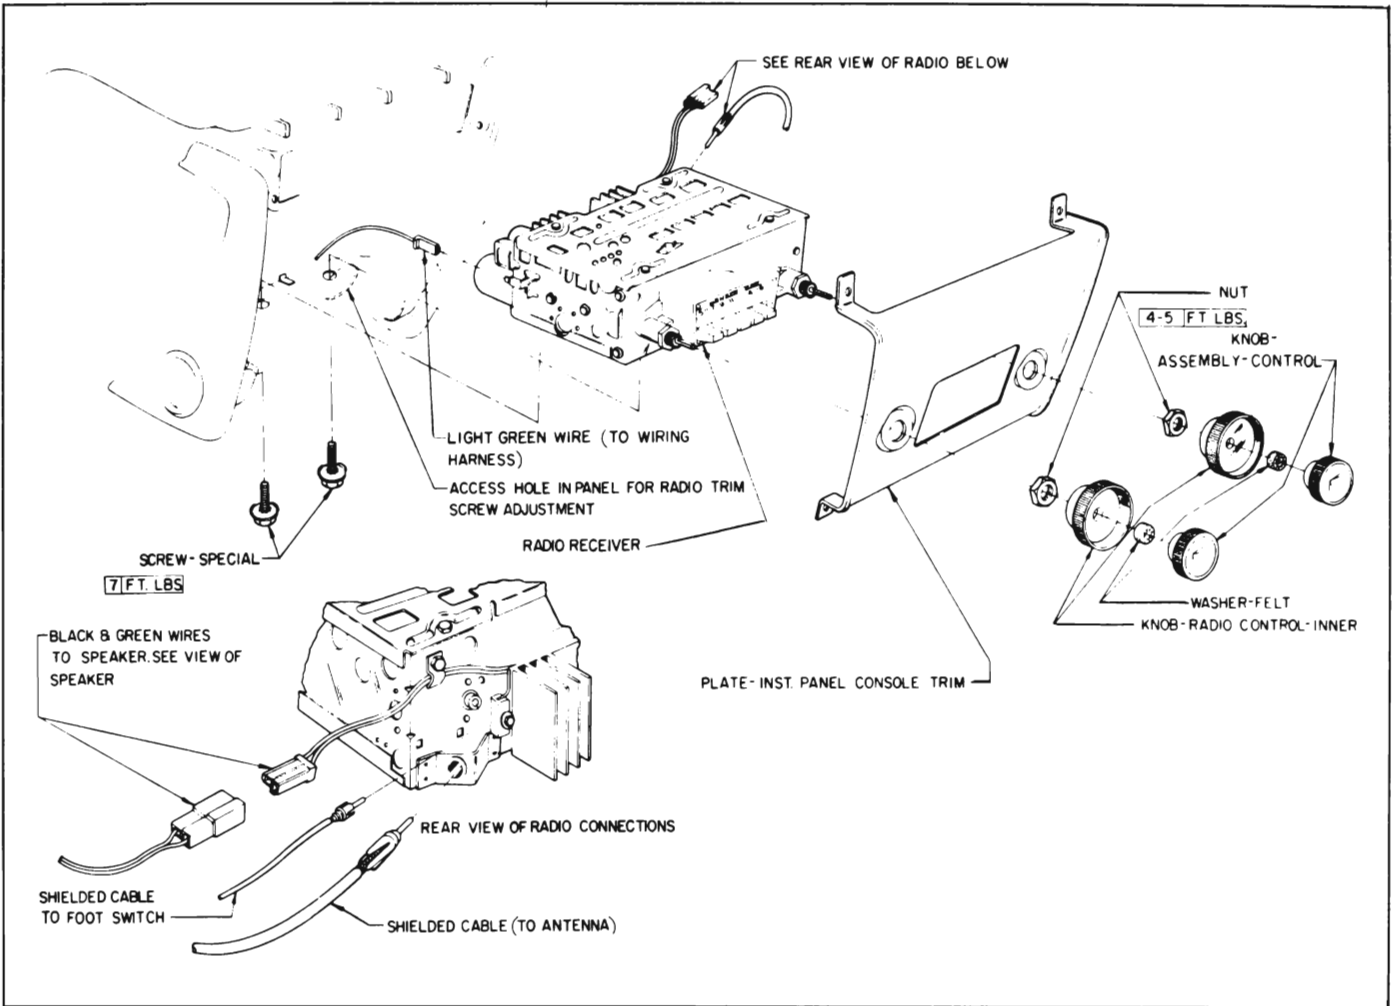

Figure 11-3—Radio Receiver Installation
1. Remove control knobs, felt washers, inner knobs and hex nuts from radio. See Figure 11-3.